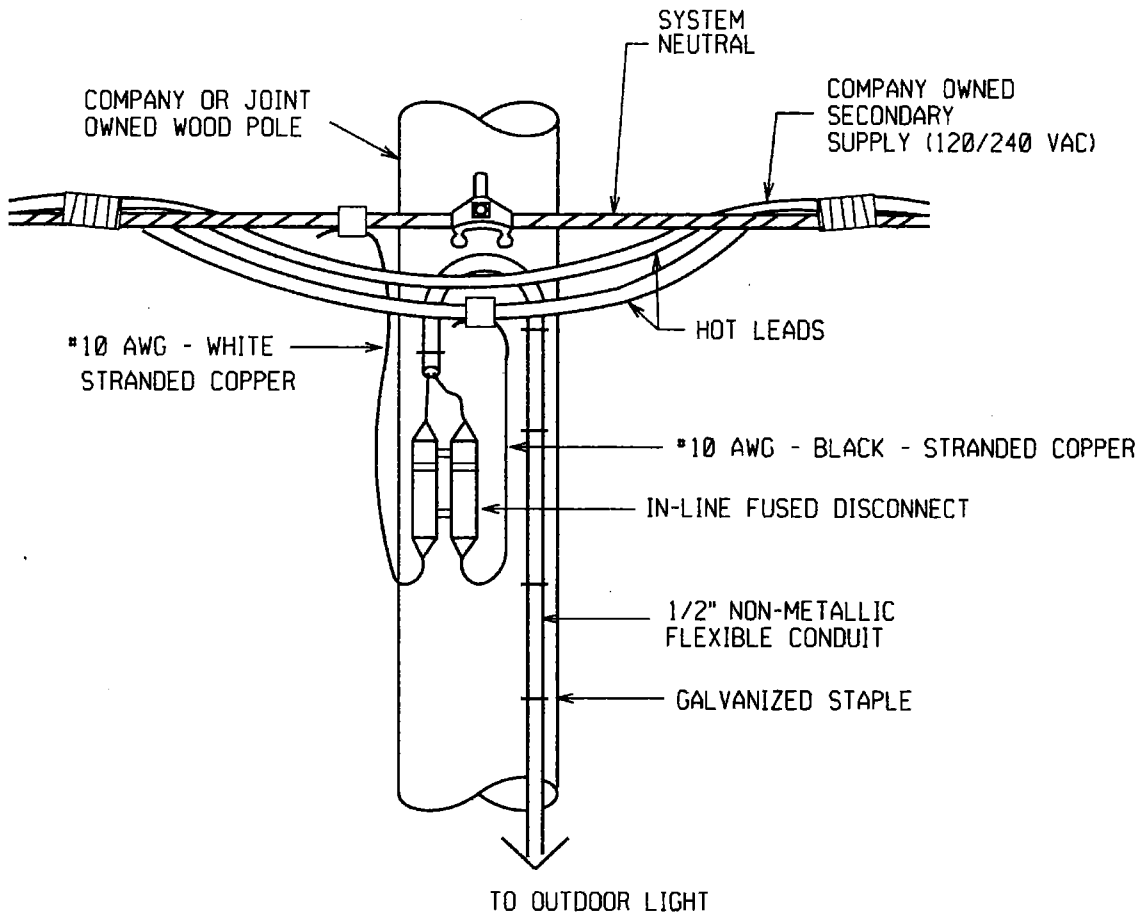
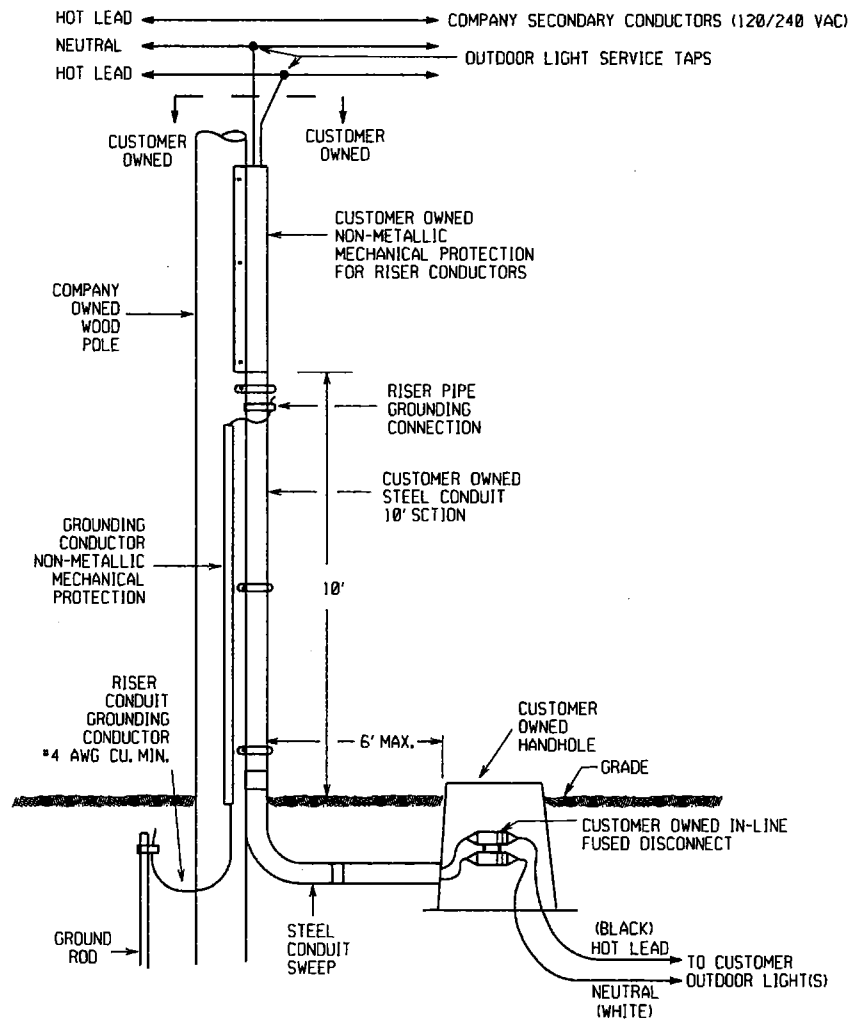
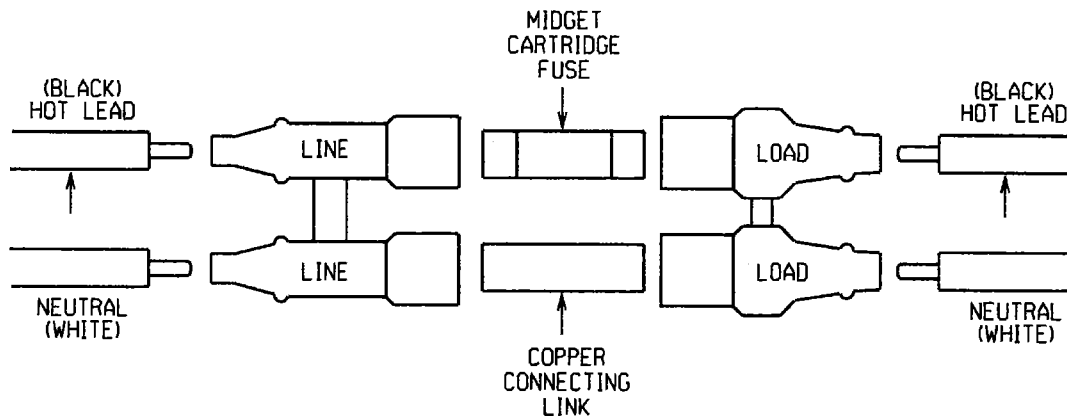

Figure 6 – Connection of Overhead Supplied Customer Owned Outdoor Light to National Grid Overhead Secondary Conductors
Figure 7 – Connection of Customer Owned Outdoor Lighting Riser to National Grid Overhead Secondary Conductors
Figure 12 – In-Line Fused Disconnect Details
Electrical Separation: The customer is responsible to create an electrical separation between the National Grid secondary conductors and the customer owned outdoor lighting conductors. This is required to insure the safety of National Grid and customer employees. It also clearly defines where National Grid ownership ends and customer ownership begins. This is accomplished by installing a dual pole in-line fuse holder with a midget cartridge style fuse on every outdoor light supply located as near as possible to the connection to the National Grid owned secondary conductors. This fuse, in addition to providing electrical protection, shall serve as a future disconnect point for the customer owned outdoor light. Once installed, the customer may disconnect or reconnect a customer owned outdoor light only by means of the in-line fuse holder. See Figure 6 for overhead supplied outdoor lights, and Figures 7, 8, 9, or 10 for underground supplied outdoor lights. See Figure 12 for in-line fused disconnect details.
1. Install customer owned handhole as shown in Figure 7. Customer owned handhole shall house the in-line fused disconnect. See page 14 for details on the in-line fused disconnect.
3. No more than (2) riser conduits may be attached to a pole. Consult National Grid Engineering if more than (2) risers are desired.
1. For all new installations and modifications to existing installations, the customer is required to install an in-ground handhole located as close as possible to the company provided electrical source point, as illustrated in Figures 7, 8, and 9.